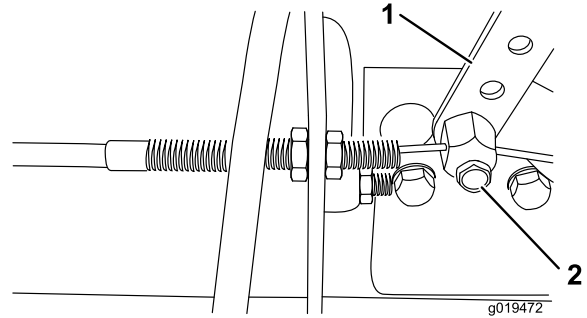

Figure 59
2. Loosen the throttle cable connector on the lever arm at the injection pump (Figure 59).